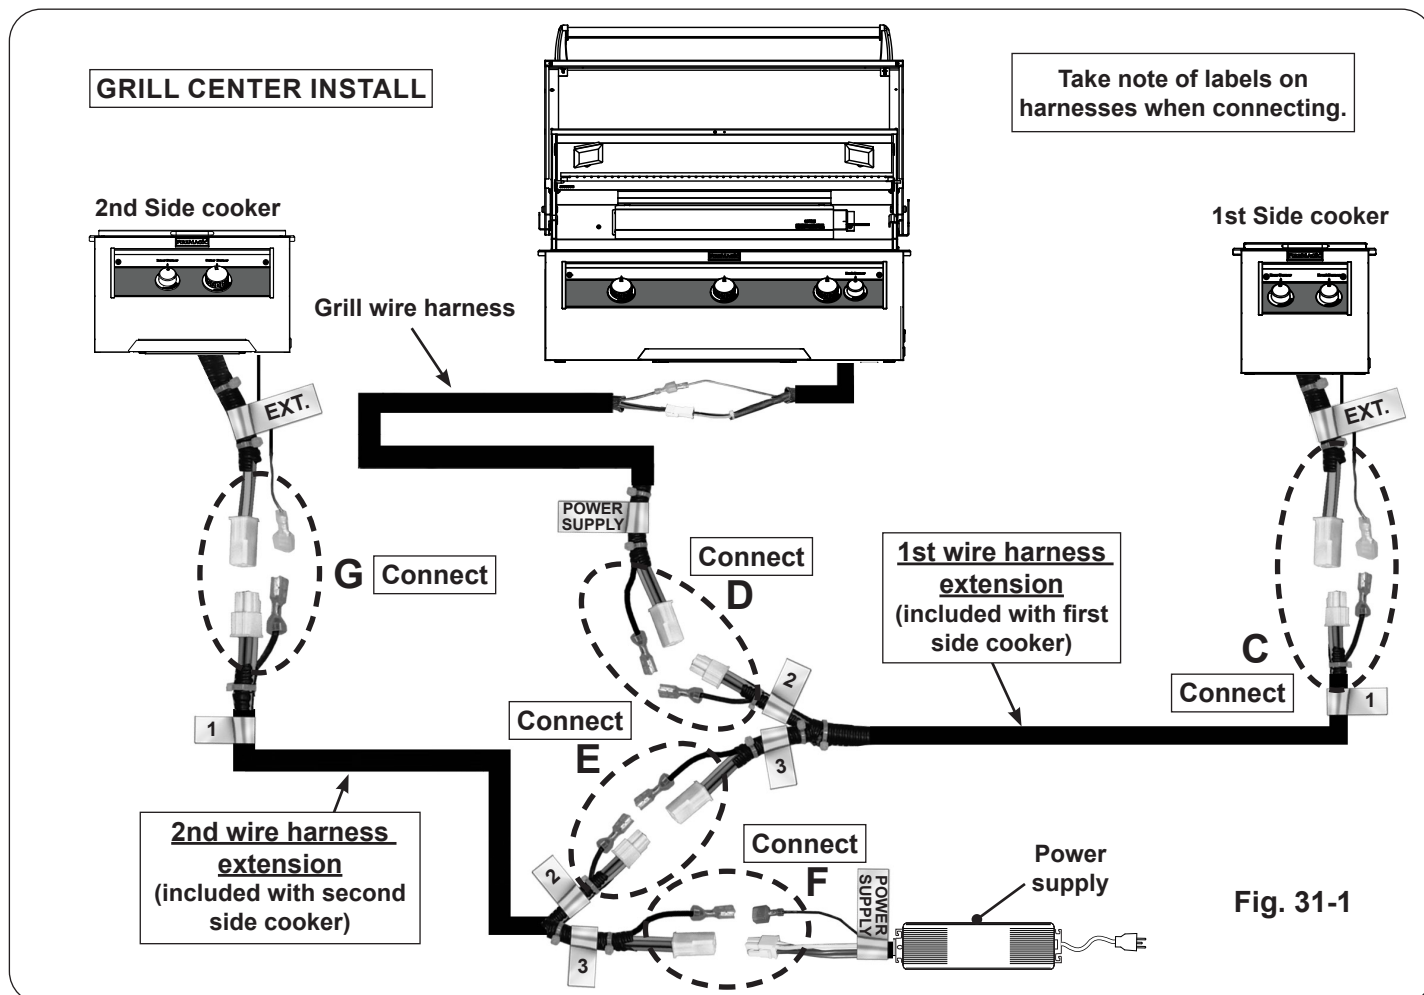

Fig. 31-1
- Locate the **FIRST** wire harness extension that is included with the **FIRST** side cooker and make connections C and D (see Fig. 31-1, C & D).
- Locate the **SECOND** wire harness extension that is included with the **SECOND** side cooker and make connections E, F, and G (see Fig. 31-1, E, F, & G).